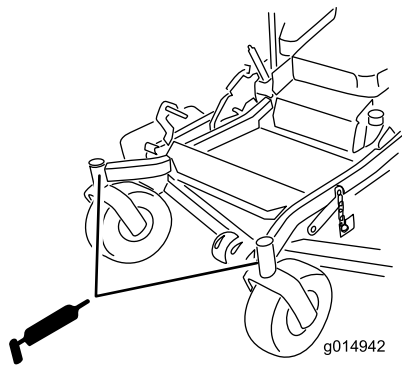

Figure 39
9. Install the hex plug and dust cap (Figure 39).